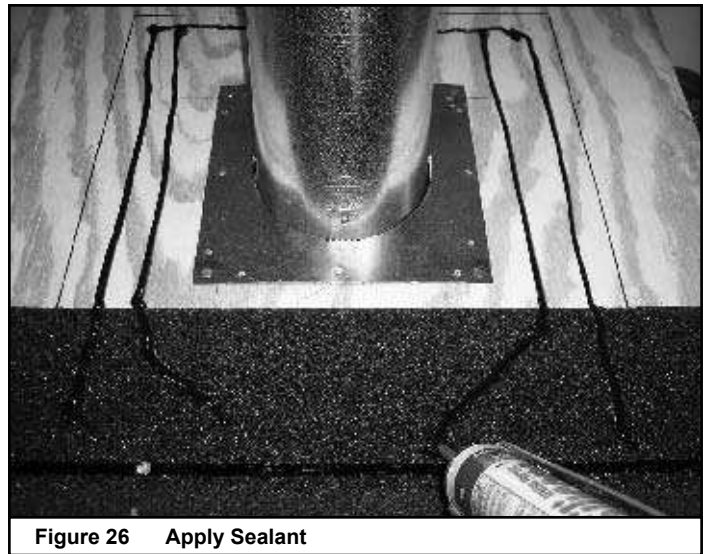

Figure 26 Apply Sealant
- Apply silicone sealant to roof inside the lines (Figure 26)